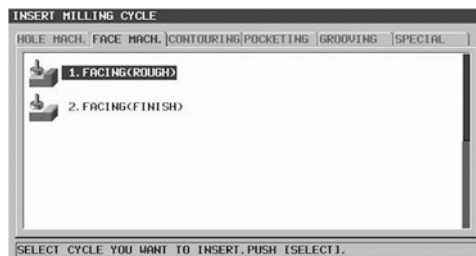

Figure 7-48 FACING (ROUGH) Cycle (MC)
3. **Begin to program** with the Face Machining by pressing the CYCLE soft key. Use the arrow key to change to the FACE MACH. tab and choose 1. FACING (ROUGH) (Figure 7-48). Then press the SELECT soft key.